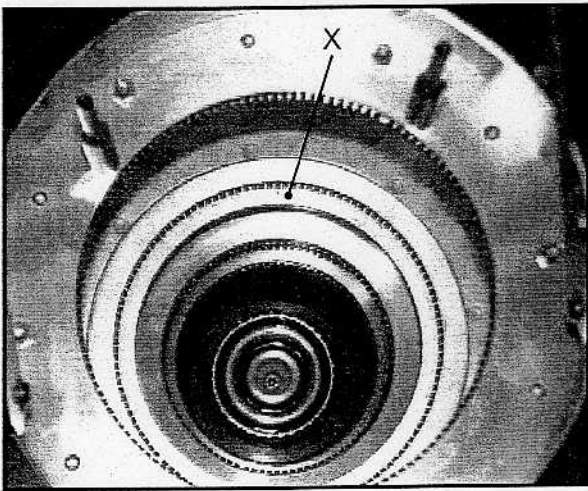

Fig. 32a
2. Remove any loose particles from the inside of the tuning cavity system paying particular attention to surface 'X' (see Fig. 32a).